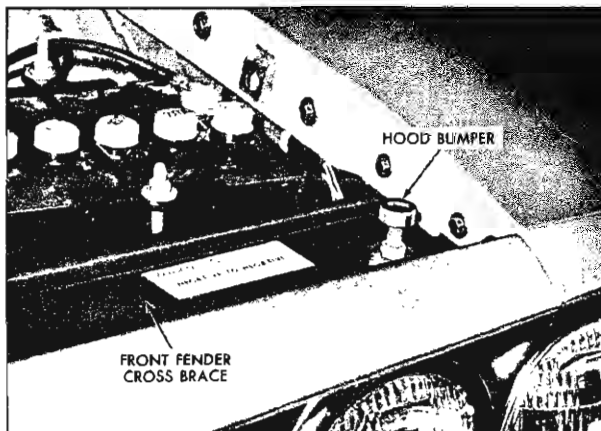

Fig. 10-6 Hood Bumper
2. Raise or lower hood bumpers on front fender cross brace (Fig. 10-6).